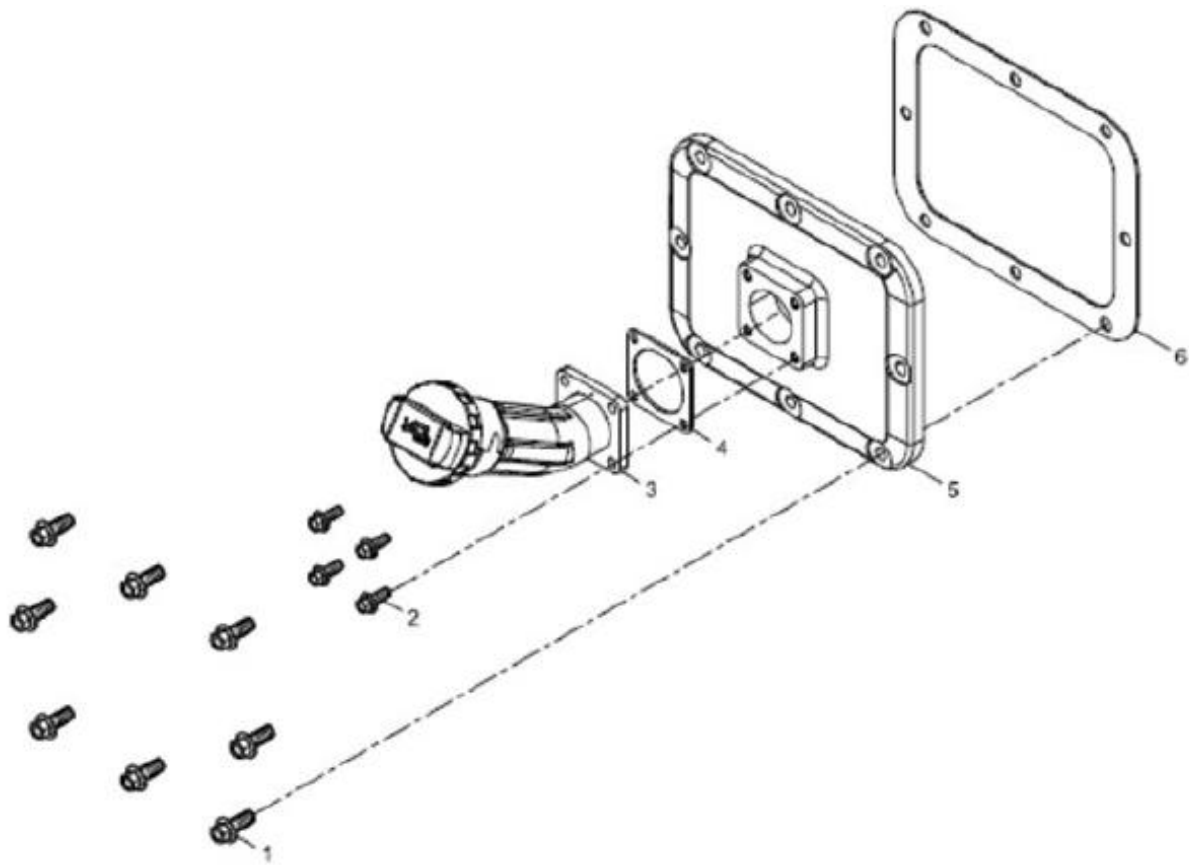

Figure 10. Oil Filling Tube Assembly
1. Loosen and remove bolts (Figure 10, Items 1 & 2).
2. Remove oil fitting tube (Figure 10, Item 3).
3. Remove oil filler tube gasket (Figure 10, Item 4).
1. Place oil filler tube gasket (Figure 10, Item 4) on the cover (Figure 10, Item 5).
2. Place oil filling tube (Figure 10, Item 3) onto gasket (Figure 10, Item 4).
3. Insert and tighten bolts (Figure 10, Items 1 & 2).